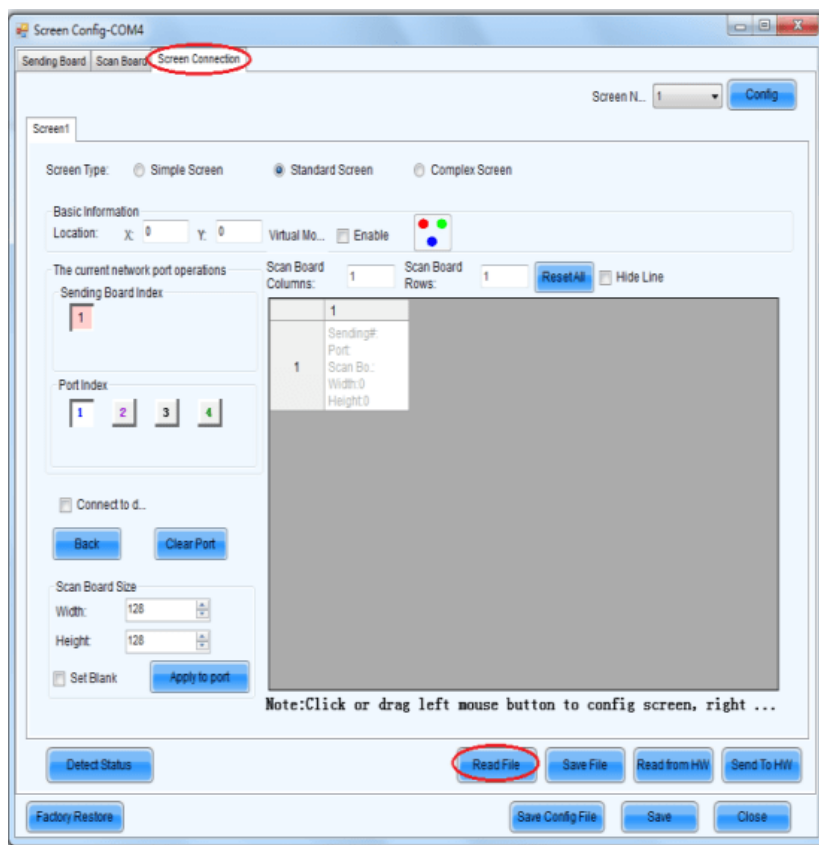

Figure 3-9 Screen Connection
- 1) Click **Read File** to load the file xxxx.scr stored in the optical disk, as shown in Figure 3-9.